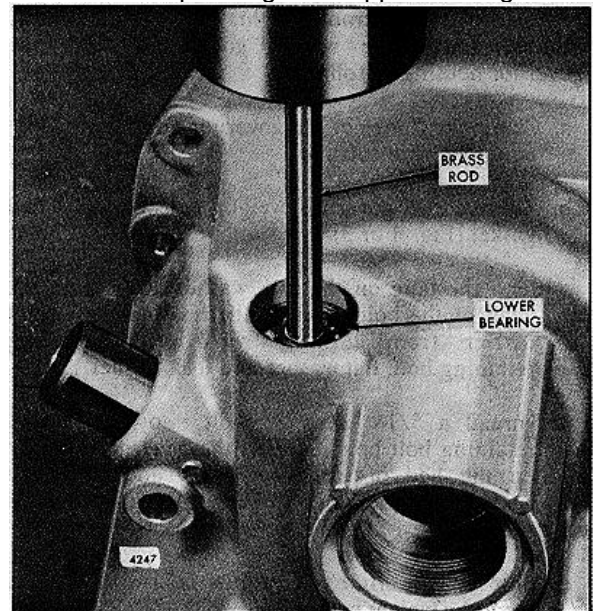

FIG. 15 - Removing Operating Shaft from Operating Shaft Lower Bearing
- f. Support the governor housing bottom side up on the bed of an arbor press, with the two dowel pins in the top of the housing between the two steel supports. Place a small brass rod on the end of the operating shaft and press the shaft out of the bearing (Fig. 15).